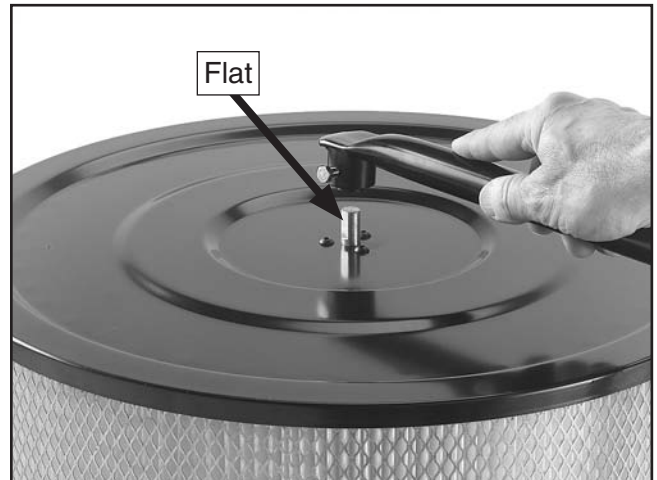

Figure 20. Installing canister handle.
- a. Install the canister handle onto the top of the canister filter by tightening the bolt against the flat of the shaft (see **Figure 20**).